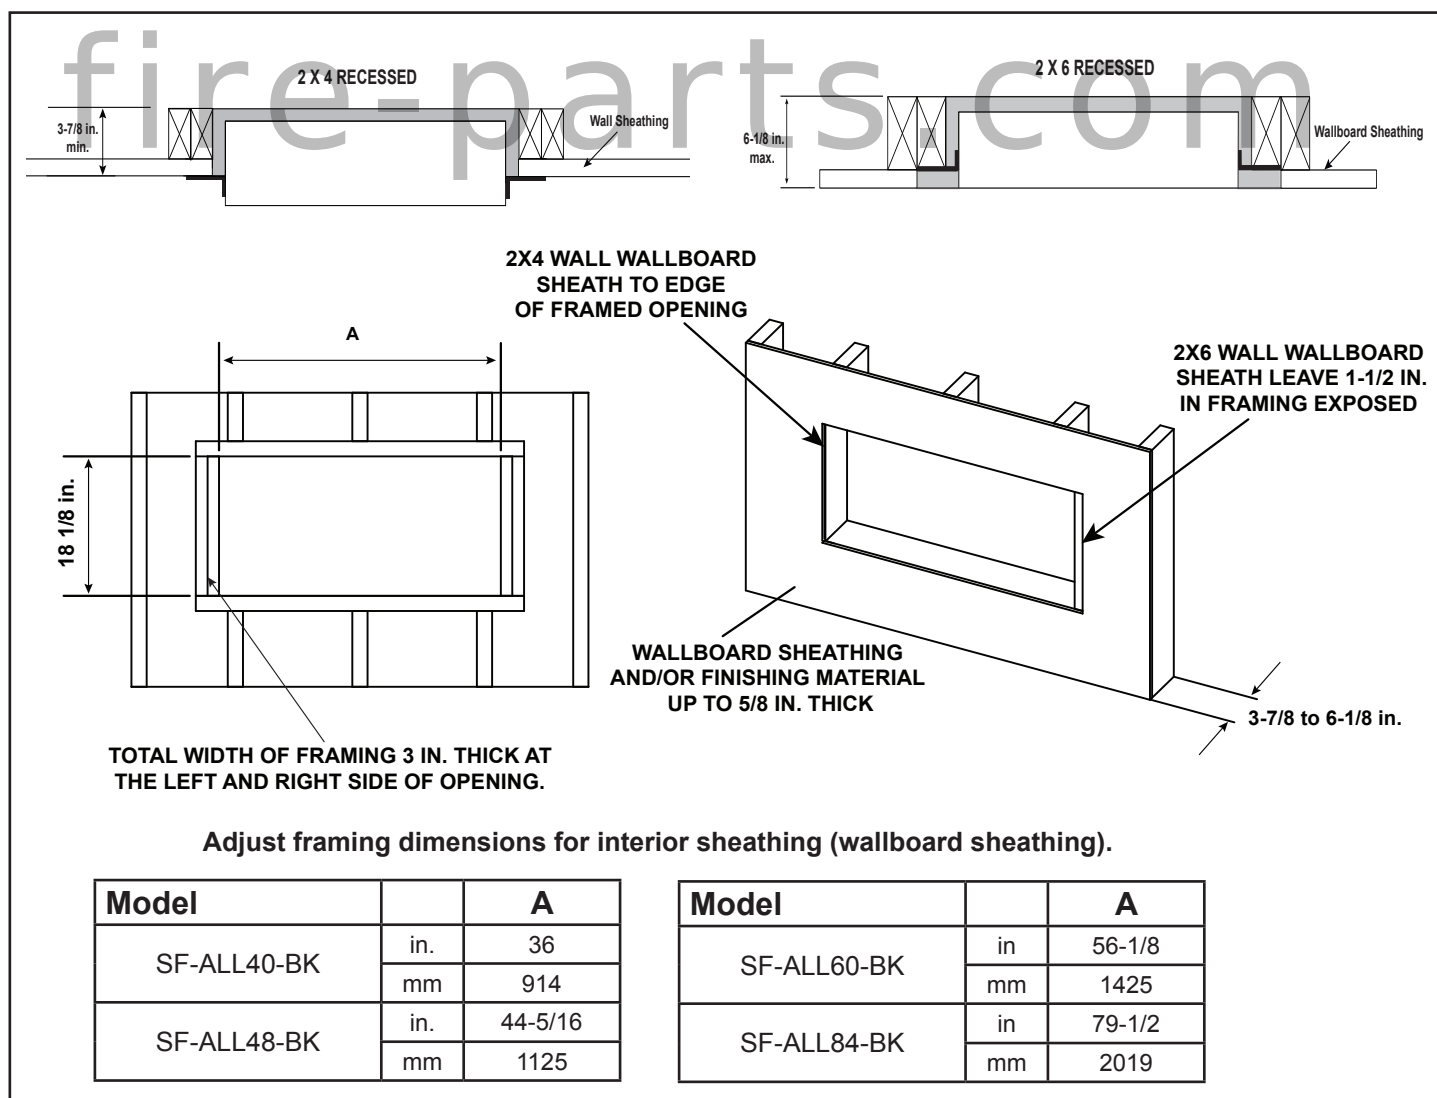
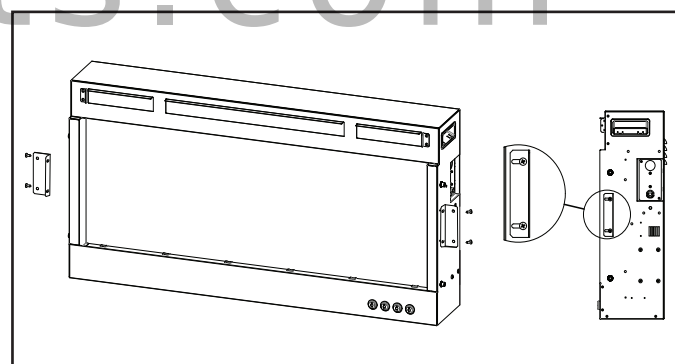
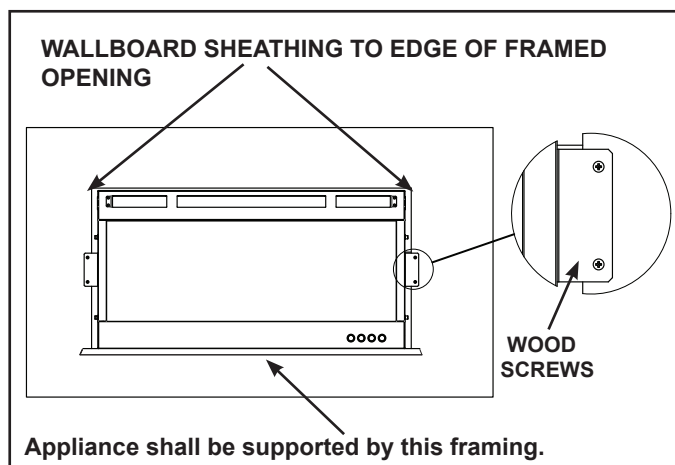

Figure 4.1 Framing and Wall Finishing for Recessed Installation
Figure 4.7 Fixing Brackets Attachment for Recessed Mounting in 2 X 4 in. Framing
Figure 4.8 Securing the Appliance in 2 X 4 Framing
1. Finish wall construction per requirements in Figure 4.1.
The width of the framing on each side of the opening must be 3 in. with 1-1/2 in. framing on the left and right sides of the opening exposed. This is needed for the wallboard finishing and to secure the appliance into the opening. See Figure 4.1.
Allow 1-1/2 in. of wood exposed after finishing the wallboard. See Figure 4.1 and Figure 4.6.
The width of the framing on the left and right sides of the opening must be 3 in.. This is needed for the wallboard finishing and to secure the appliance into the opening. See Figure 4.1 and Figure 4.8.
Wallboard should be finished up to the edge of the framed opening. See Figures 4.1 and 4.8.
2. Install the Fixing Brackets to the right and left side of the appliance. If necessary, remove the Fixing Brackets, and reorient them to the position of 2X4 framing. See Figure 4.1 and 4.7. Attach each Fixing Bracket to the appliance with two (2) ST4X40 screws and washers. See Figure 4.7 for proper bracket orientation.
4. Install the appliance into the opening so the weight of the appliance is supported by the bottom framing. Level the appliance. Ensure that it is centered left to right, then fasten it directly to the framing with two (2) ST4X40 screws through both the left and right brackets. See Figure 4.8.